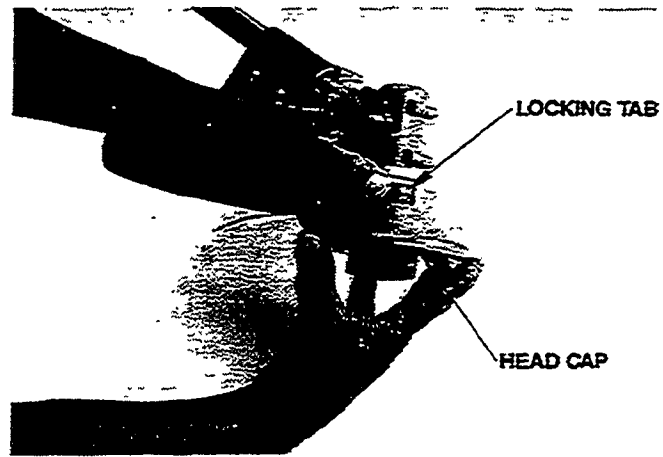

Figure 10
- Push in one of the locking tabs, releasing it from its notch (**Figure 10, 11**), and pull on the rotary head cap.